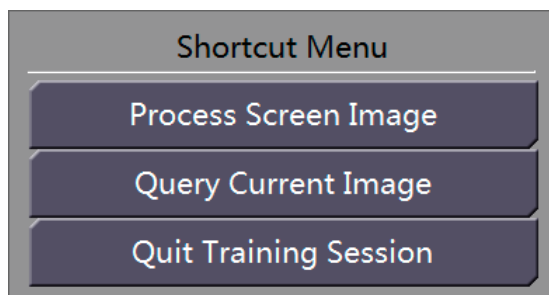

Figure 17-3 Shortcut Menu
Step 12 To stop the current training session, press  on the operation keyboard to stop image displaying. Right-click on the image display area or press  and  on the operation keyboard to display a shortcut menu, as shown in Figure 17-3. Choose Quit Training Session or click “Stop” on the Training Session interface as shown in Figure 17-1 to quit the training session.